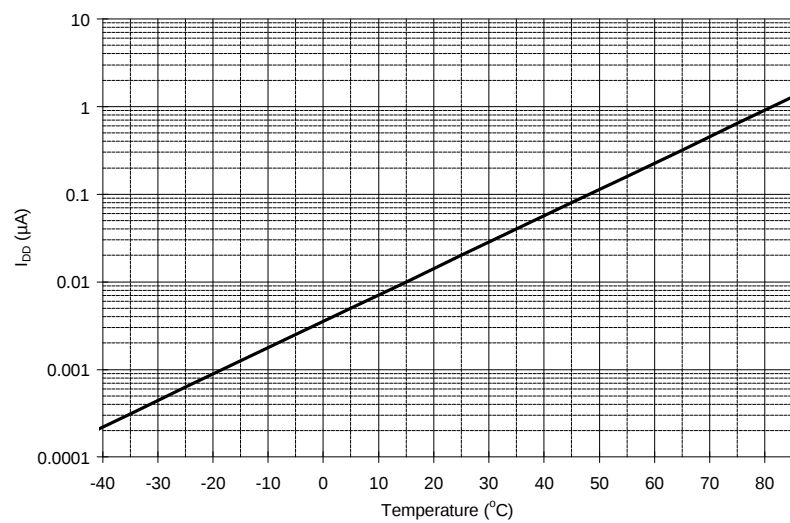

Figure 13 : Typical 'Zero Power' I_{DD} vs. Temperature ($V_{DD} = 5.0V$)
2. RD, RXCK, MODE 2 inputs at V_{SS} , MODE 1 input at V_{DD} . See also Figure 13.